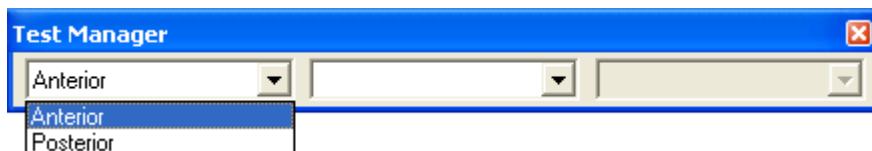

Fig. 11. *Test manager* with the pull-out list *Test type*
2. Select *Load tests* (menu *File*). Then, a list of tests belonging to the patient will be loaded and the list *Test type* in *Test Manager* will be pulled out (⇒ Fig. 11).